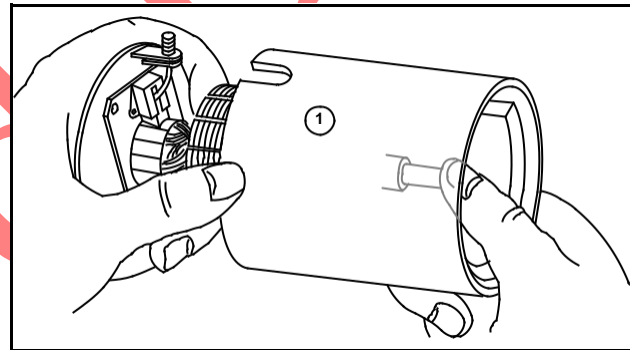

Fig. 54
2. Support armature shaft and slide it slowly into housing (1), Fig. 54 (Typ).